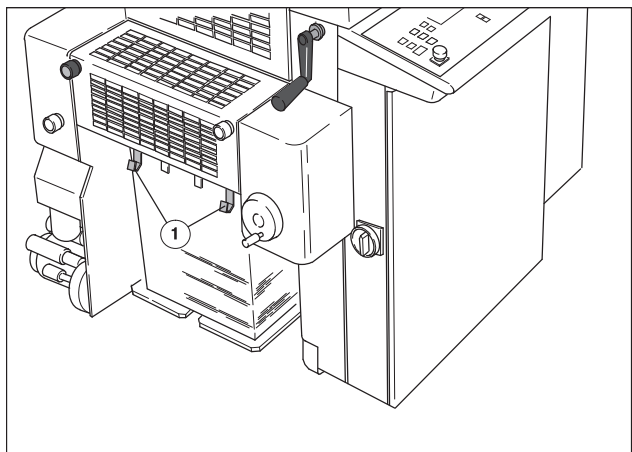

Fig. 7 Pulling sample sheets
1. During production, briefly raise the front sheet stops (Fig. 7/1) and place horizontally.